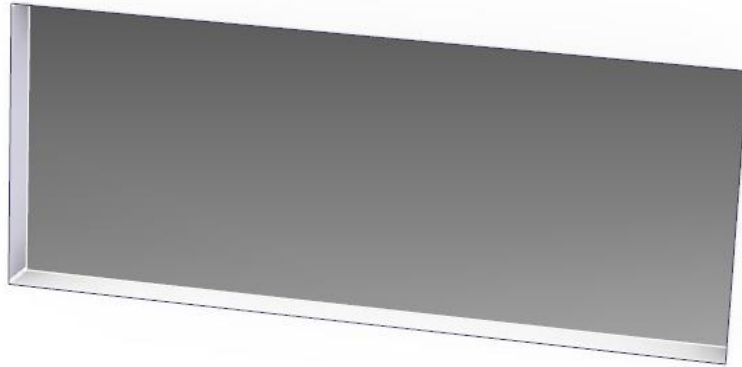

Figure 4: Cut Window Hole
10.2. Using a Jigsaw, with a 100mm Blade (either wood or metal blade based on your panel spec), cut out the centre of the window hole following the drawn lines made in point 9.2. Now, your panel should look like Figure 4.